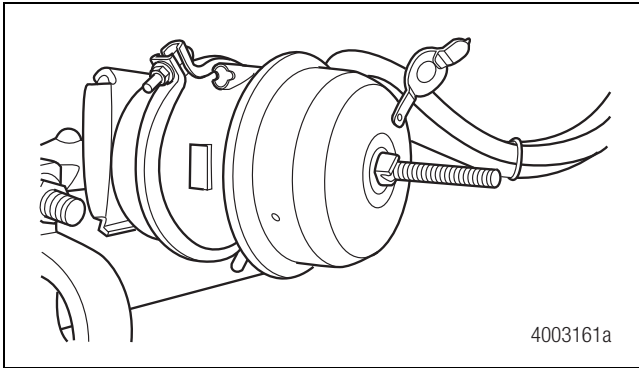

Figure 3.3
5. If the axle is equipped with spring brake chambers, carefully compress and lock the springs so that they cannot actuate. Figure 3.3.